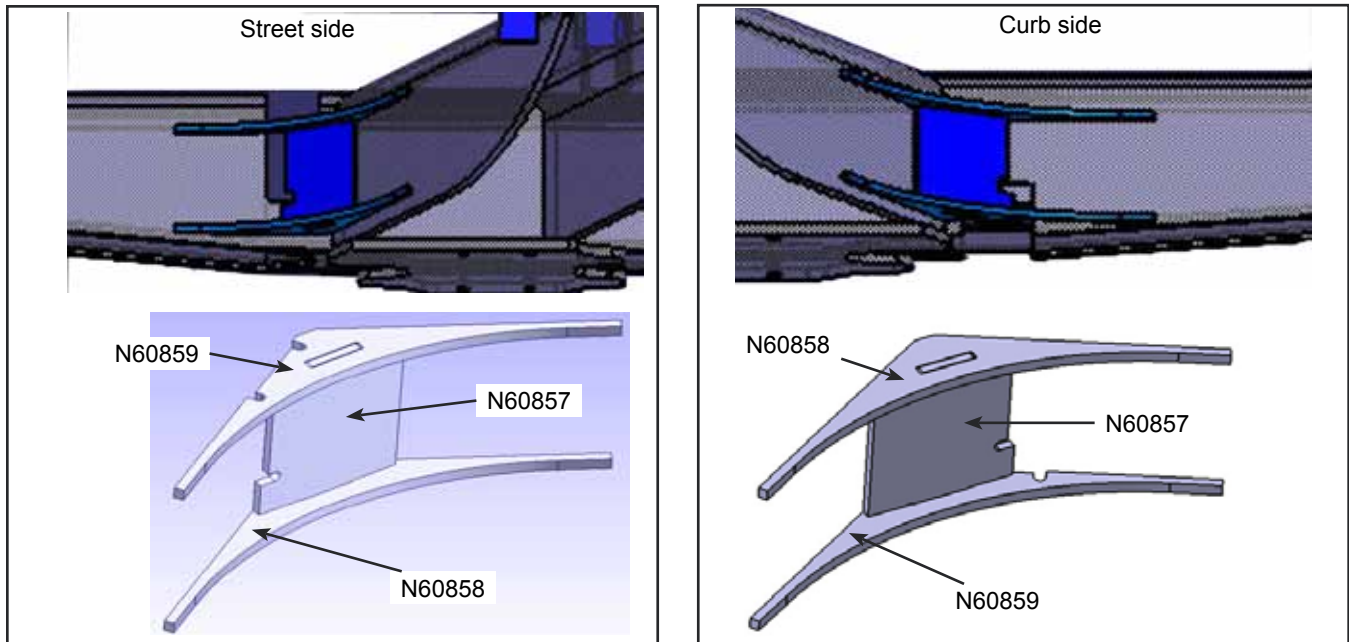

Figure 7 - Position of Plates in Zone 3
1.16. Weld the plates N60857, N60858 and N60859 in zone 3. See Figure 7 for the position of the plates.